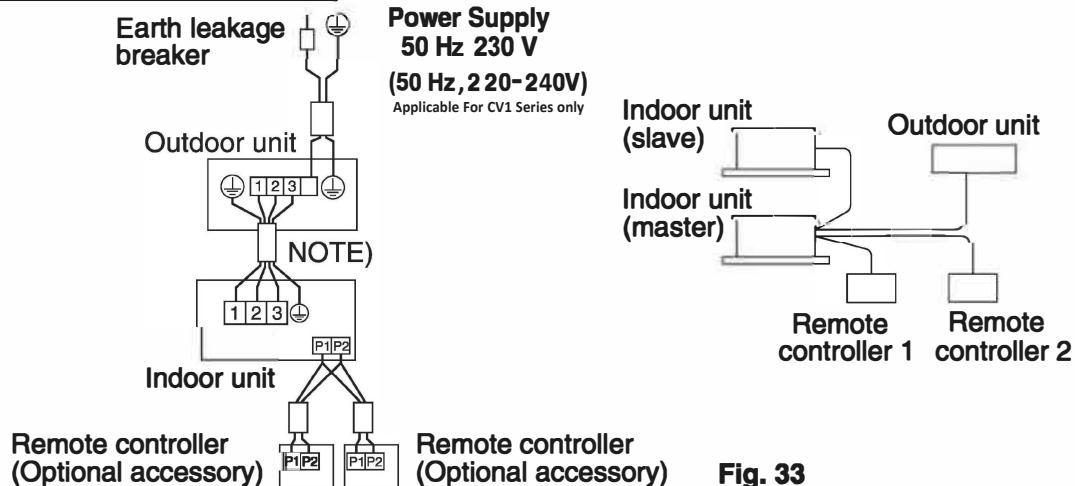

Fig. 33
- **2 remote controllers control:** 2 remote controllers control 1 indoor unit. (Refer to Fig. 33)
(1) Remove the control box lid.
(2) Add wiring between the remote controller 2 (Sub) and the terminal (P1, P2) of the terminal block (X1M) for the remote controller in the control box. (There is no polarity.) (Refer to Fig.33 and Table 5)